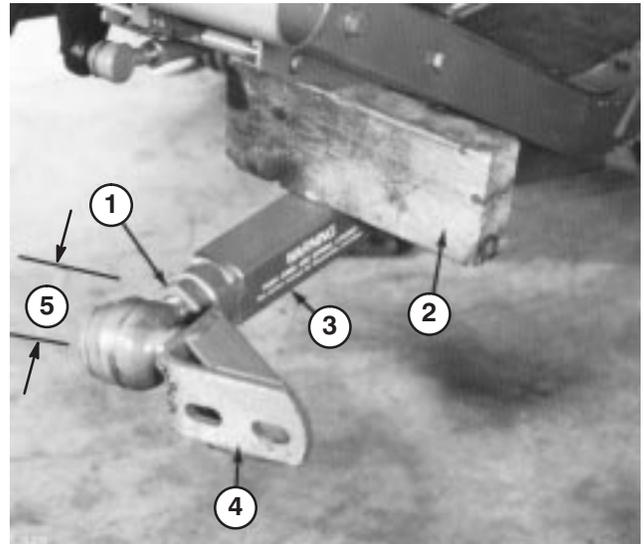

Figure 18
4. Have a helper push down on the left push arm. Then insert a 2 x 4 in. (51 x 102 mm) block of wood between the frame and top of the push arm (Fig. 18). Screw ball joint into left hand push arm until center of ball joint is 2-3/8 inches (60 mm) away from front of push arm (Fig.18). Do not tighten jam nut.